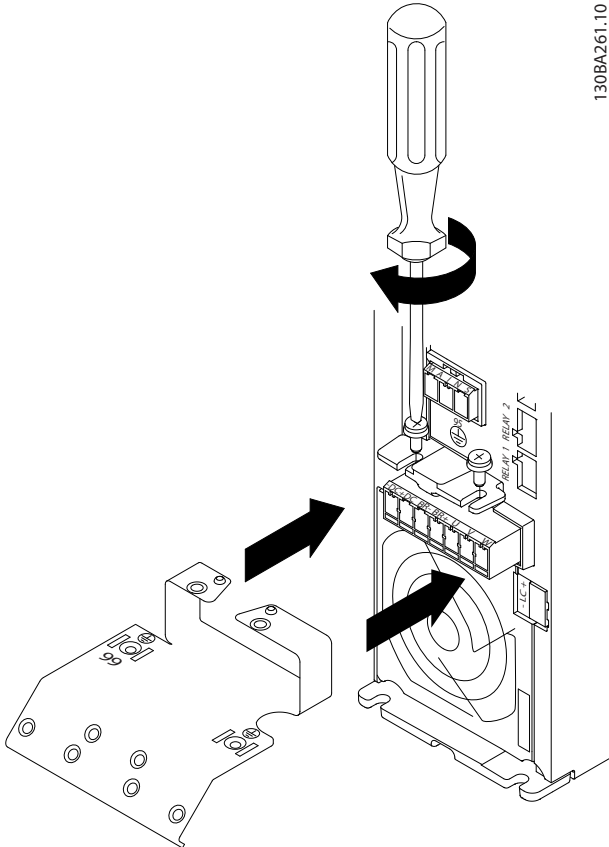

Figure 3.8 Mounting the Mounting Plate
1. Slide the mounting plate into place and tighten the 2 screws as shown in *Figure 3.8*.